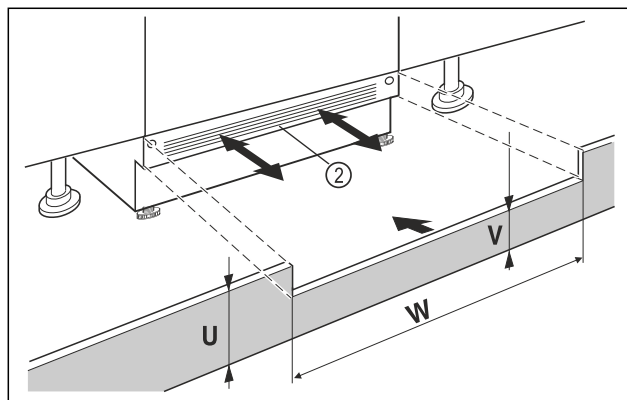

Fig. 14 Example illustration
- ▶ Put on the appliance base cover Fig. 14 (2) but do not fix it in place yet.
- ▶ If the base panel is visible Fig. 14 (2), pull it forwards so that the front edge of the ventilation grille and the unit base panel are level.
- ▶ If the base panel is concealed Fig. 14 (2), push it all the way back.
- ▶ Ensure that the ventilation slots are completely free: If necessary, cut the height of the unit base panel Fig. 14 (U) to size!
- ▶ Adjust the web height Fig. 14 (V) under the appliance base panel Fig. 14 (2) along the niche width Fig. 14 (W).